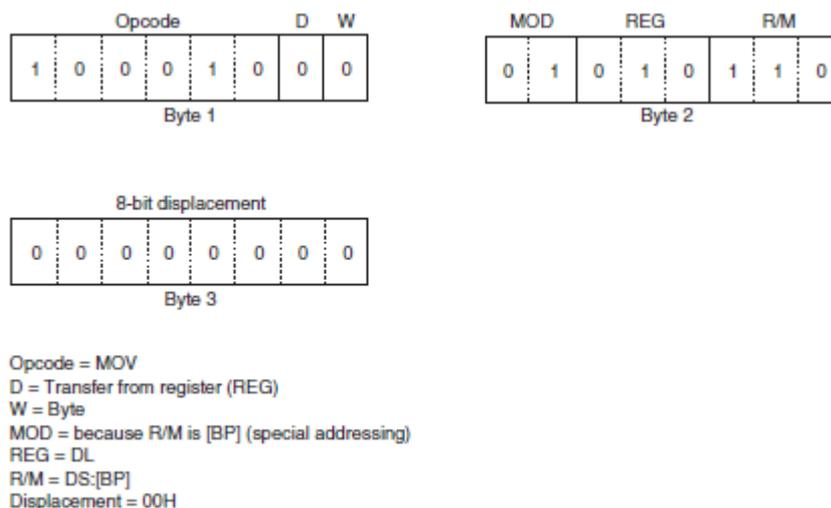

Figure 4-7: The MOV [BP], DL instruction converted to binary machine language
- If instruction contains no displacement and uses [BP] addressing mode, then you cannot actually use [BP] addressing mode without a displacement in machine language (Figure 4-7). The assembler takes care of this by using an 8-bit displacement(MOD=01) of 00H whenever the [BP] addressing mode appears in an instruction. (This means that the [BP] addressing mode assembles as a [BP+0], even though a [BP] is used in the instruction)